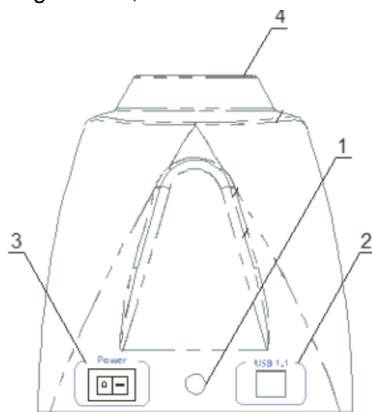

Figure 1. Rear panel
- Connect the external power supply to the socket (fig. 1/1) on the rear side of the unit;
- Connect the USB data cable to the unit (fig. 1/2) and to the personal computer;
- Insert the tube into the socket (fig. 1/4);
- 6.1. Connect external power supply to electric circuit (fig. 1/1).
- 6.2. Turn on the unit by pressing the power switch on the rear panel (fig. 1/3).
- 6.3. Insert the tube into the socket (fig. 1/4).
- 6.6. After finishing the operation, switch OFF the unit with the Power switch (fig. 1/3).
- 6.7. Disconnect external power supply from electric circuit (fig. 1/1).